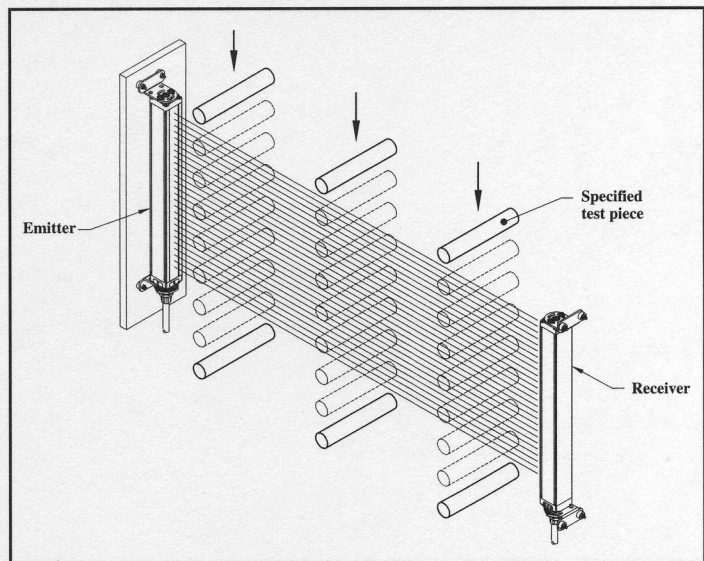

Figure 2. Use of Test Piece
- b) With the guarded machine at rest, pass the appropriate specified test piece downward through the defined area at three points: close to the receiver column, close to the emitter column, and midway between the emitter and receiver columns (see Figure 2 below). In each case, the red status indicator should come "on" and remain "on" for as long as the test piece is within the defined area. When the test piece is withdrawn from the defined area, the green status indicator should come on. If the green indicator comes "on" at any time when the test piece is within the defined area, check for reflective surfaces and do not continue until the cause is discovered and situation is resolved.